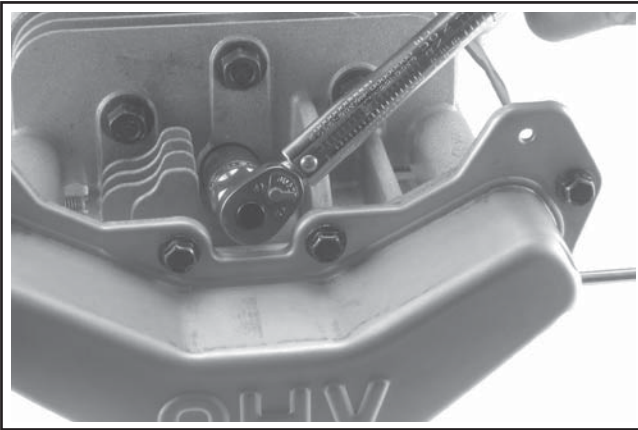

**Figure 10-55. Tightening Clip around Sheathing.**
7. If equipped with a sheathed RFI suppression spark plug lead, place the lead in retaining clip so braided wires will be in direct contact with clip when closed. Carefully close the clip with a pliers until a **0.127 mm (0.005 in.)** gap exists between the ends. **Do not** pinch or flatten the clip. See Figure 10-55.